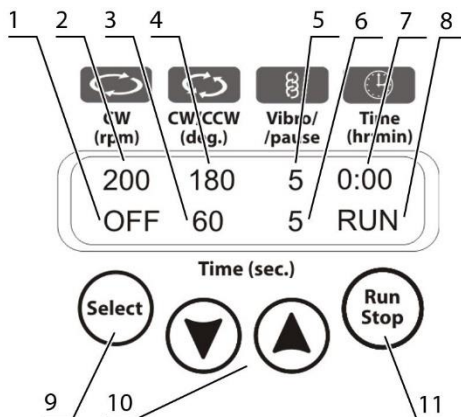

Figure 2. Control panel
- Upper line: rotation speed (fig. 2/2), reciprocation angle (fig. 2/4), vibration angle (fig. 2/5), overall timer (fig. 2/7);
- Lower line: rotation, reciprocation and vibro timers (fig. 2/1, 2/3 and 2/6), status (STOP, fig. 2/8).
- 5.5 Press the **Run Stop** key (fig. 2/11) to start the program.
- 5.6 The stirrer motion will begin and the corresponding indication, RUN (fig. 2/8) and the changing time values (fig. 2/1, 2/3, 2/6 and 2/7) are be shown on the display.
- 5.7 If the overall operation time is not set and the Time indicator (fig. 2/7) shows 0:00, pressing the **Run Stop** key will start continuous operation of the unit until the Run Stop key is pressed again.
- 5.8 If the operation time is set then the unit will stop after the set time interval elapses. Flashing indication STOP (fig. 2/8) is shown on the display and a repeating sound signal for the end of operation is heard. Press the **Run Stop** key to stop the signal.